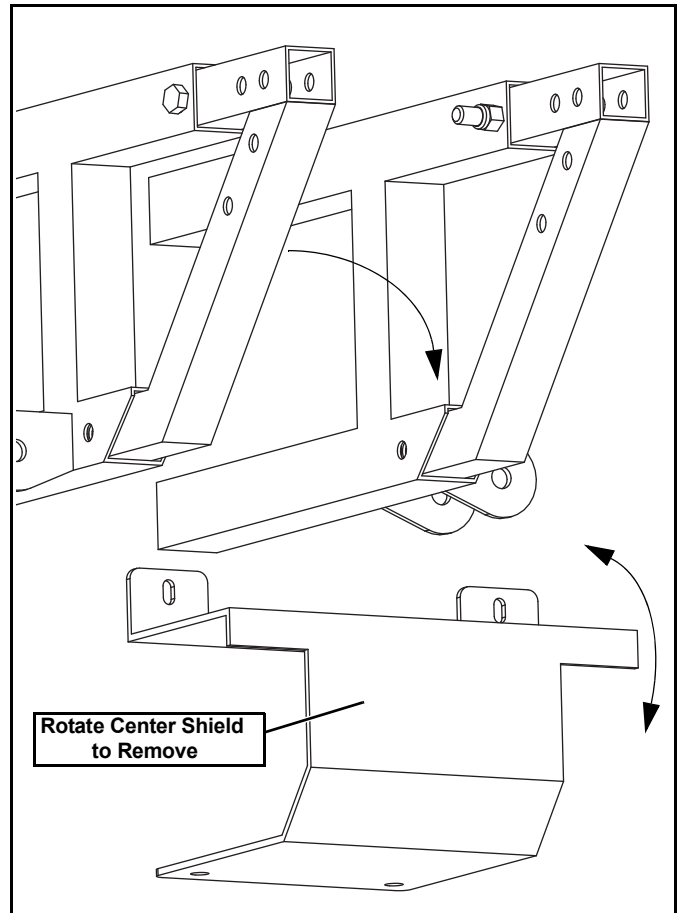

Figure 6
- Remove Center Shield and set aside for re-installation if vehicle mount kit is removed. (See Figure 6.)